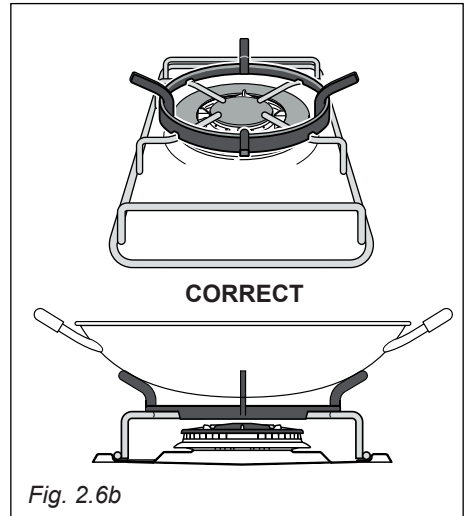

Fig. 2.6b
- The special grille for wok pans (fig. 2.6b - 2.7b) **MUST BE PLACED ONLY** over the panrest for the triple-ring burner.